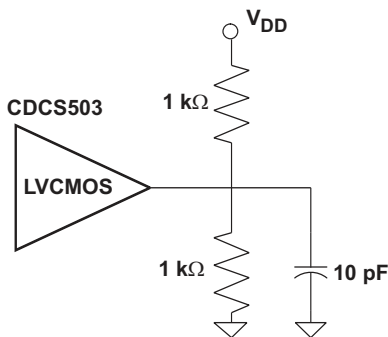

Figure 2. Test Load
(1) Measured with Test Load, see Figure 2.